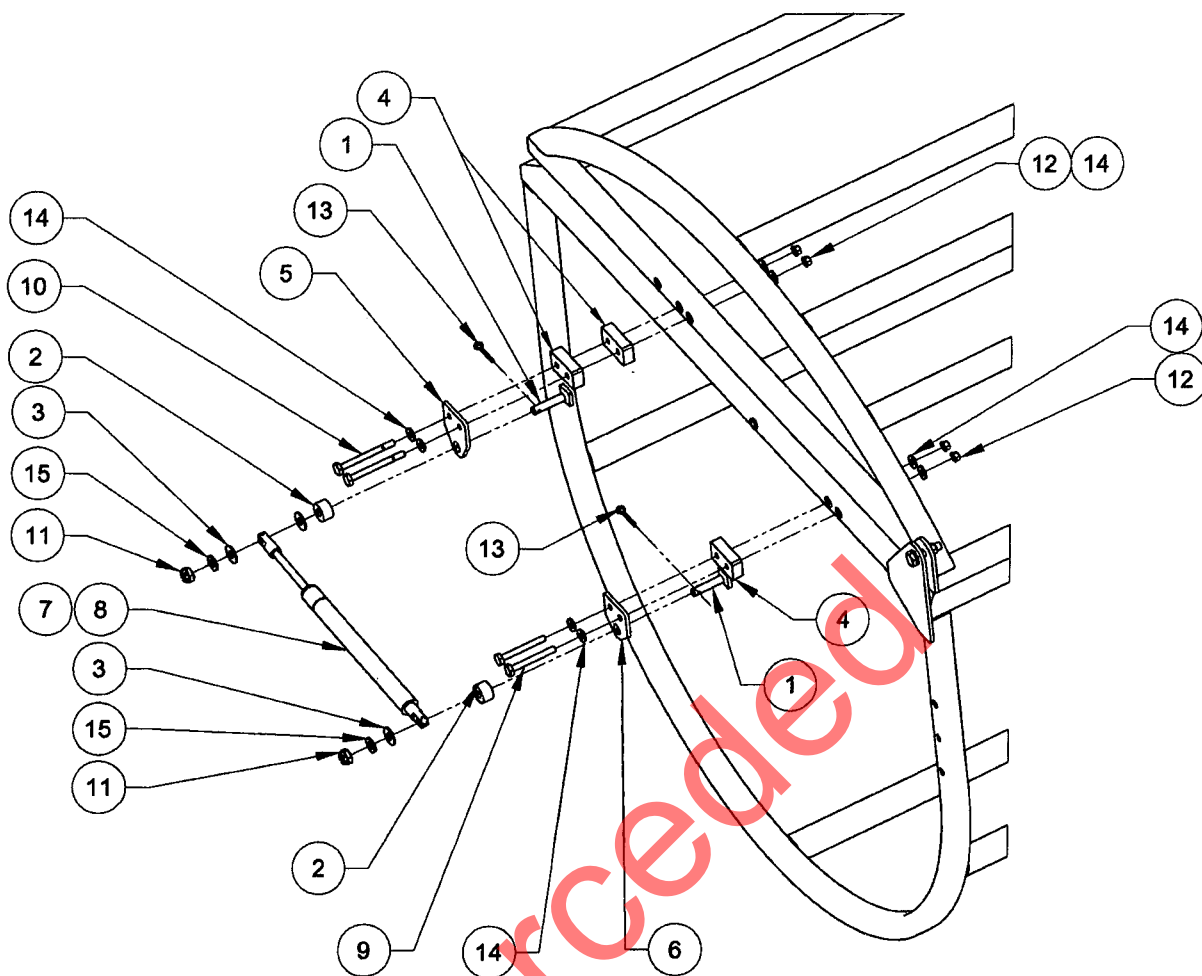

FIGURE 3: D205-541-051/-053 GAS SPRING KIT INSTALLATION
- 3.4 Install QTY 2 D3953-17 Gas Spring Spacer and D3953-19 Gas Spring Bracket to the basket lid using 2X AN3-20A bolts, NAS1149F0332P Washers and MS21042L3 Nuts as shown in Figure 3.
- 3.6 Install the D3953-17 Gas Spring Spacer and D3953-21 Gas Spring Bracket to the basket base using 2X AN3-14A bolts, NAS1149F0332P Washers and MS21042L3 Nuts, as shown in Figure 3.